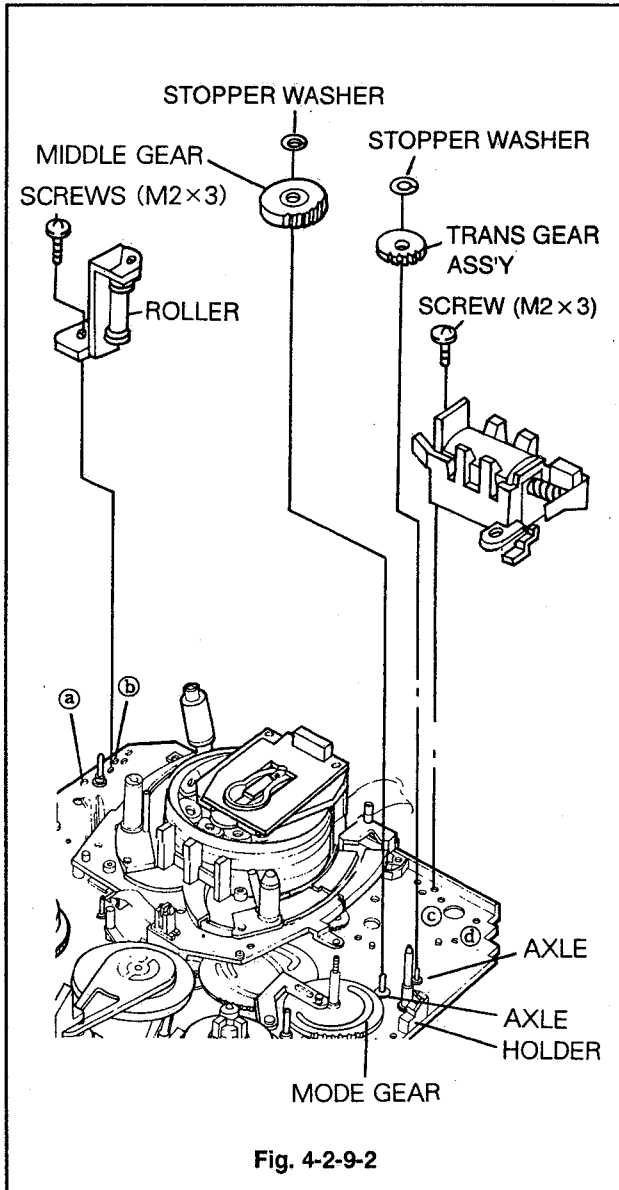

Fig. 4-2-9-2
9-1. Disassembly (Fig. 4-2-9-1, 4-2-9-2)
- (1) Remove the Screw for removed the Loading Motor Ass'y (Fig. 2-9-2). At this time, the Worm Gear Ass'y is disassembled simultaneously with the Loading Motor Ass'y ① and Worm Gear Ass'y ② in gear together. (Fig. 4-2-9-1)
- (2) Remove the Loading Motor Ass'y and Worm SHAFT Ass'y. (Fig. 4-2-9-1)
- (3) Remove the Stopper Washer and remove the Trans Gear Ass'y.
- (4) Remove the Stopper Washer and remove the Middle Gear.
- (5) Release the Screw to remove the Bracket Ass'y.
9-2. Reassembly (Fig. 4-2-9-2)